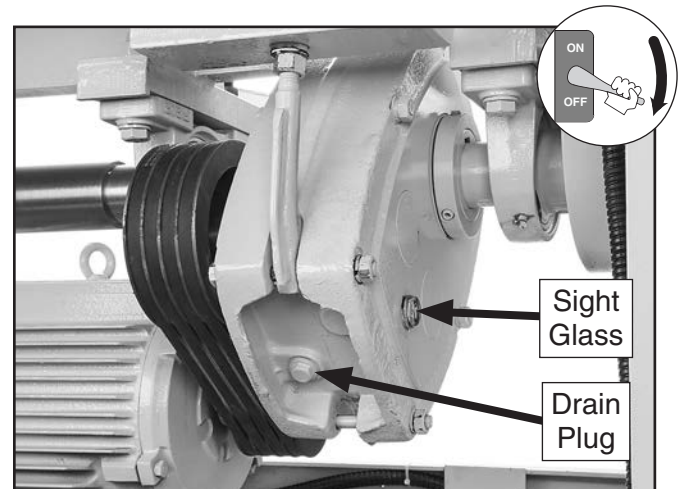

Figure 49. Gearbox drain plug and sight glass (front of machine).
3. Working at front of machine, place drain pan under gearbox drain plug (see **Figure 49**).
6. Fill gearbox with ISO 68 machine oil or equivalent until oil level is centered in sight glass (see **Figure 49**), then re-install fill plug.